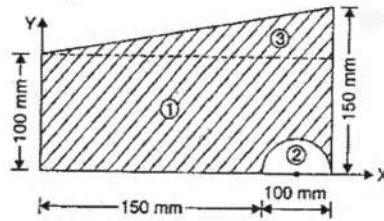

Figure 4
4. A semicircle area is removed from the trapezoid as shown in figure 4. Determine the centroid of the remaining area. [7]